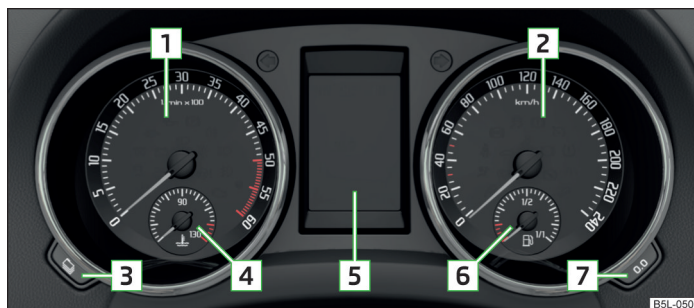

Fig. 2 Instrument cluster
The red scale of the revolution counter  » Fig. 2 on page 10 indicates the range in which the system begins to limit the engine speed. The system automatically restricts the engine speed to a steady limit.
➤ Press and hold the » Fig. 2 on page 10 button.
The clock is set with the buttons and » Fig. 2 on page 10.
- Press the » Fig. 2 on page 10 key repeatedly until the odometer display flashes » page 13.